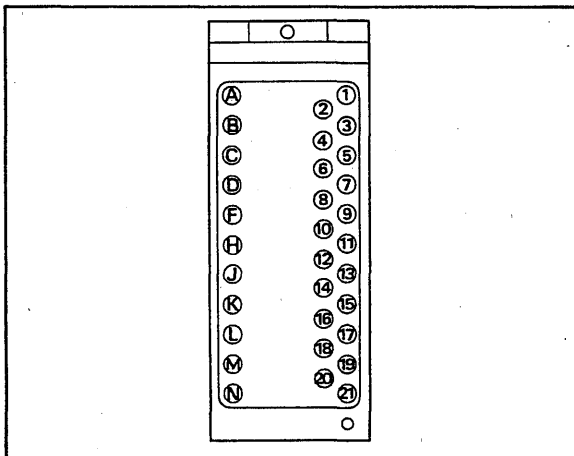
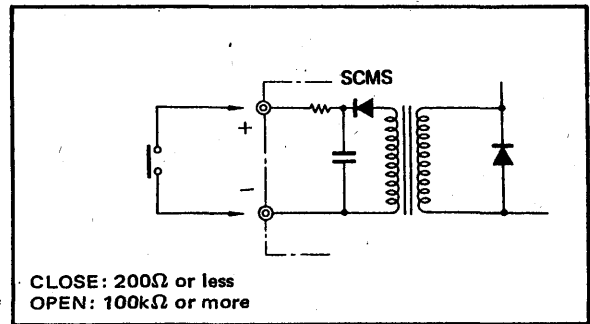

Figure 3-1-1. Terminal Layout.
Figure 3-1-3. Status Input (Dry Contact).
Connect external signal wires to the terminal board on the rear of the station housing with ISO M4 (4 mm) size screws. Remove the cover from the housing for access to the terminal board. Attach the cover in original position after wiring. (See Figures 3-1-1 and 3-1-2.)
- (1) Terminate wires in ring-type crimp-on terminals.
- (2) The proportion of status lines that are inputs and the proportion that are outputs can be set by the user program. The default is for status terminals 1 to 5 to be inputs and status terminals 6 to 10 to be outputs (Fig. 3-1-1).
- (3) Most of the I/O status signals share common negative (ground) terminals; for these signals, use external relays if I/O isolation is required.
- (4) Provide contact or voltage-level status input signals which meet the specifications. Particularly take care that leadwire resistance (voltage drop in leadwires) is not excessive, and observe correct polarity for voltage inputs (Figs. 3-1-3 and 3-1-4).